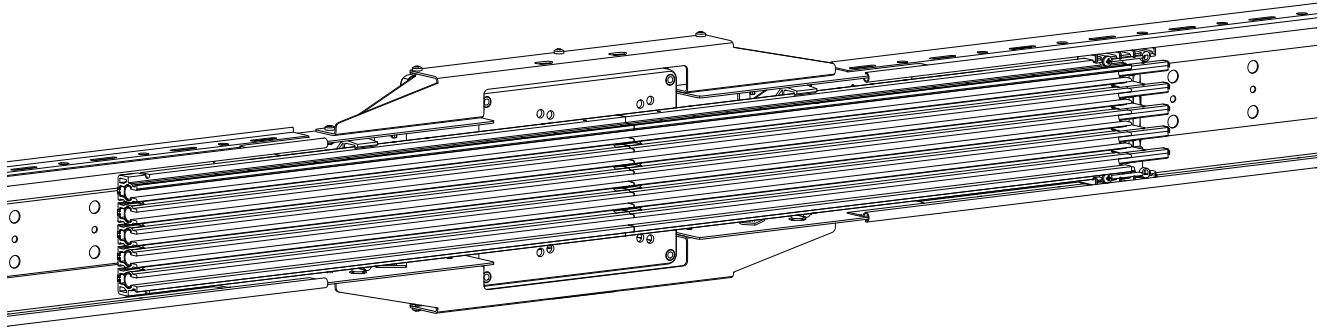

Fig. 75: Line feed with terminal box is installed on fastening frame
2. Hang the line feed with terminal box in the anchor points on the fastening frame. Observe the PE position during this. Conductix-Wamplfer recommends attaching the PE rail as the last or lower pole (viewed from above) (see Fig. 75).